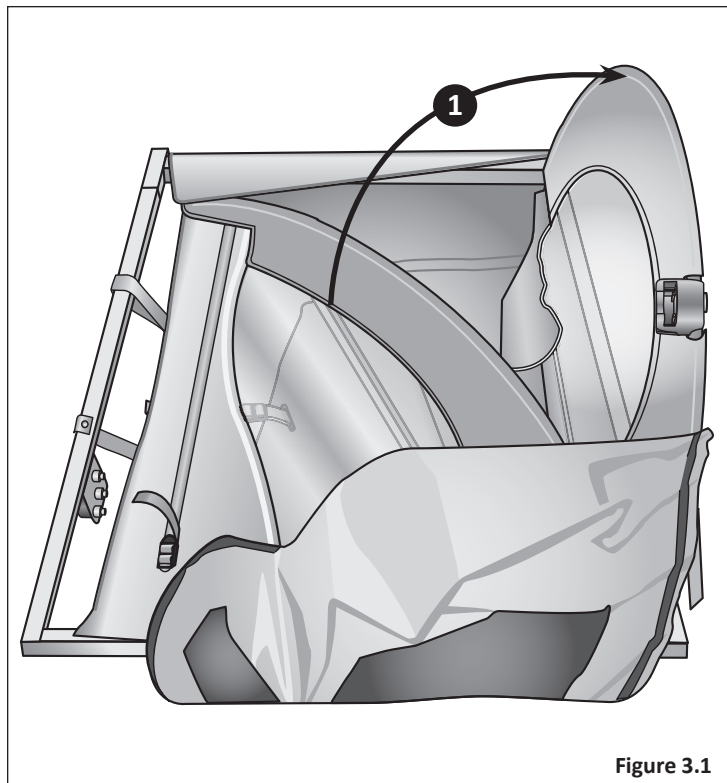

Figure 3.1
- 1 Lift the right side wall up into a vertical position. **Figure 3.1**